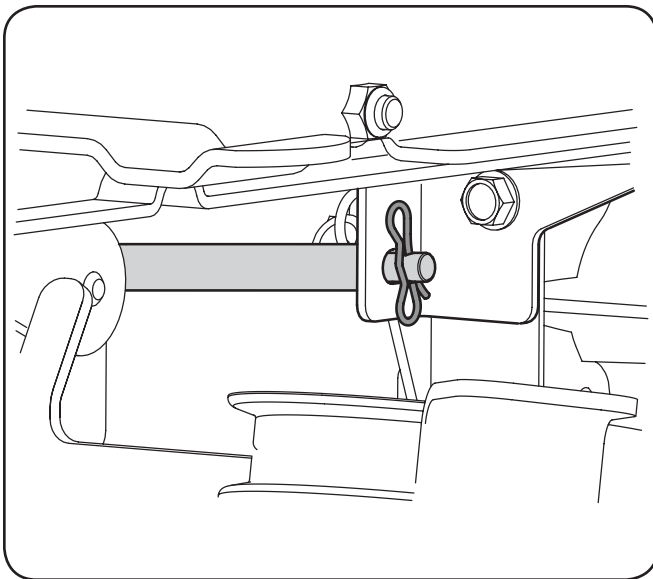

Figure 7-4
- Remove the bowtie cotter pin connecting the deck sway rod to the tractor frame. See Fig. 7-4.